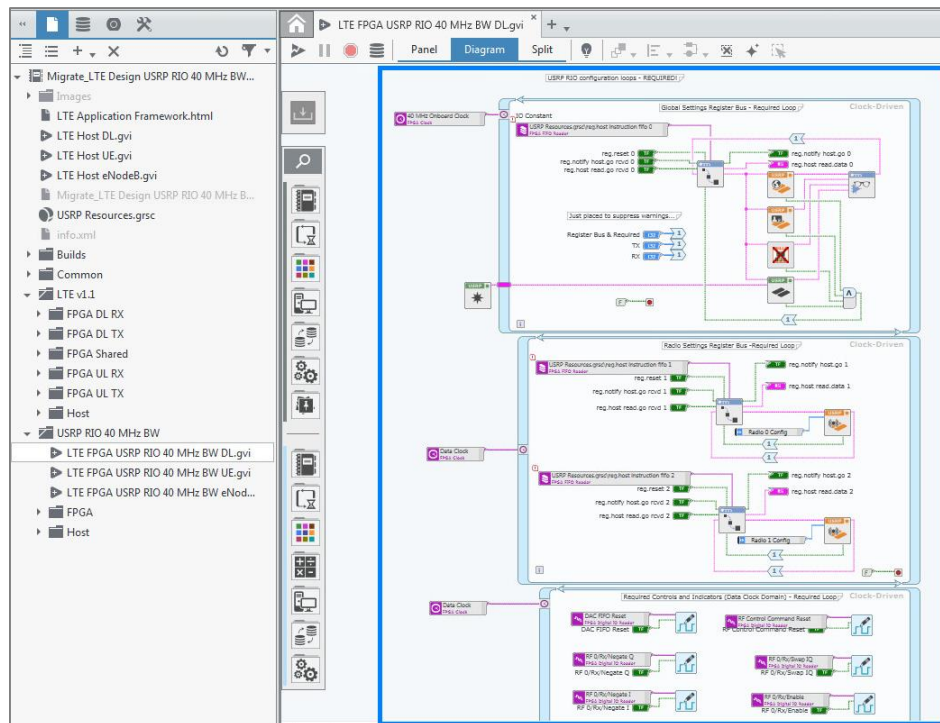

Figure 31: CDLs noted in Step 7
5. Find the three Clock-Driven Loops which are used for interfacing with the USRP as shown in the following Figure 31.